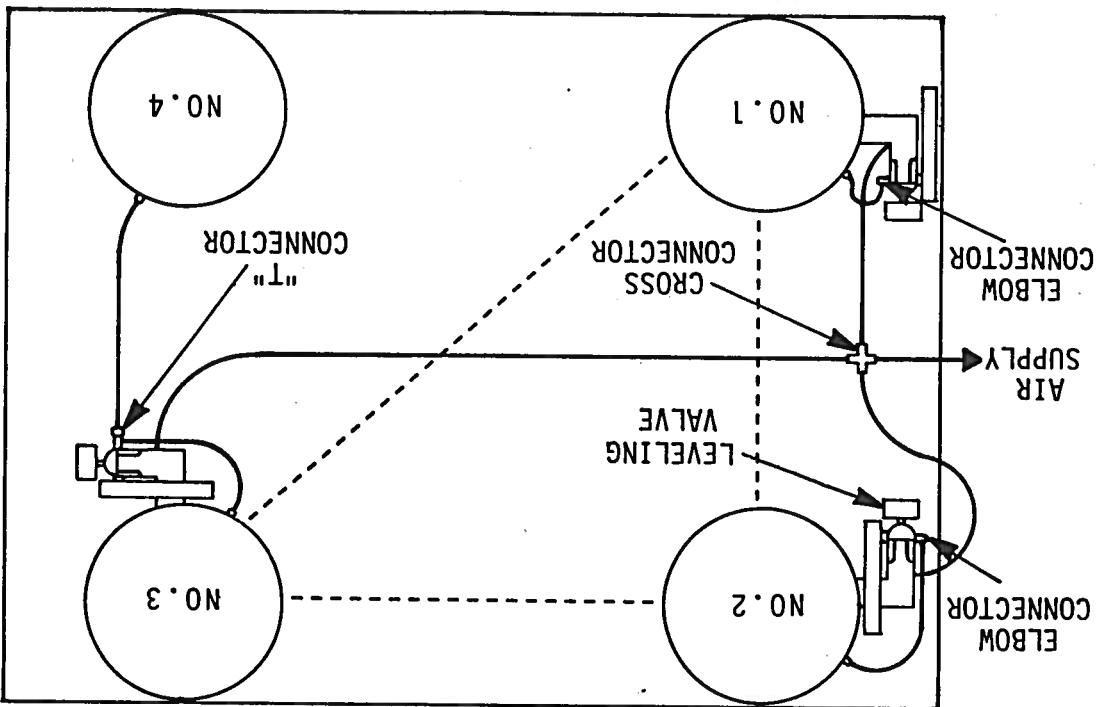

FIGURE 1a
12. The leveling valves are factory adjusted. If necessary, the flatness of the floor can be compensated by adjusting knob (L) of the leveling valves so that the table floats about 1/4 inch above the top of the legs. Adjustment of all three valves may be necessary to raise any one corner.
14. "Hunting" or oscillation would occur for heavy loads or loads with high center-of-mass. This problem is intrinsic with any soft spring-mass system. The solutions evolve around a combination of increasing the leg spacing, decreasing the load, lowering the center of mass, reducing the Q of the feedback system, and by increasing the spring constant. The feedback loop can be stabilized by restricting the air flow by decreasing the air supply pressure and also by closing down the metering valve (V). It is necessary to contact Newport in order to increase the spring constant. Occasionally instability is caused by wrinkles in the diaphragm due to twisting of the pistons during installation. Repositioning the load towards the center of the table also helps stabilizing the system.
- a. Adjust the height adjustment knob (L) so the table floats as close as possible to the isolation mounts, approximately 1/8 inch.
- b. Adjust high center of mass loads as close to the center of the table as possible. If an off center load is unavoidable, adjust the load within the triangle transcribed by the three isolation mounts with air control valves mounted (see Figure 1A).
- d. Adjust the metering valve knob (V) on isolation mount No. 1 (Figure 1A) open 1/16 to 1/8 turn.
- Adjust the metering valve knob (V) on isolation mount No. 2 open 2 1/4 turns.
- Adjust the metering valve knob (V) on isolation mount No. 3 open fully.